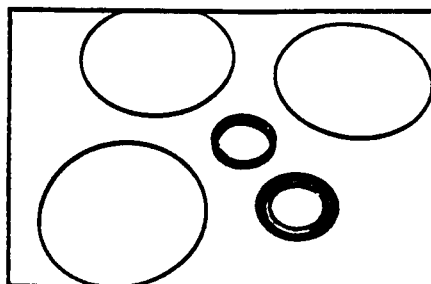

Figure 29
- NOTE: Individual seals and seal rings as well as a complete seal kit are available. SEE FIGURE 29. The parts should be available through most OEM parts distributors or Ross approved MAF distributors. (Contact your local dealer for availability).